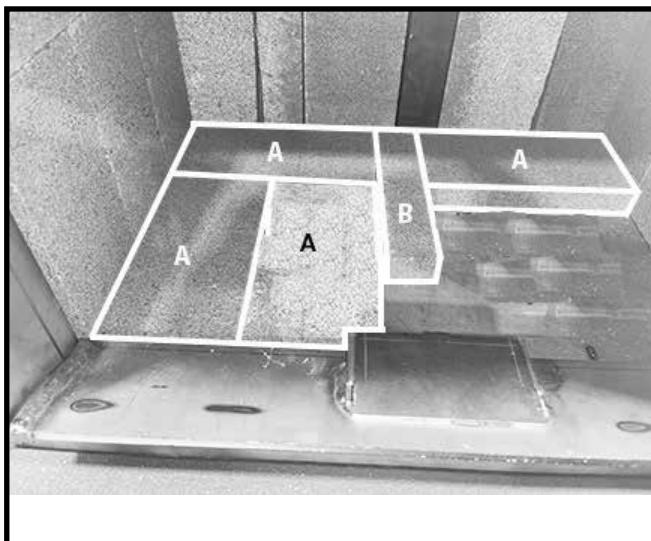

Figure 26: A bricks in front of rear A brick.
7. Place two "A" bricks in front of the left side "A" brick located at the rear of the firebox floor and slide them back so that both "A" bricks are touching. (Figure 26). (For install without optional ash dump.)